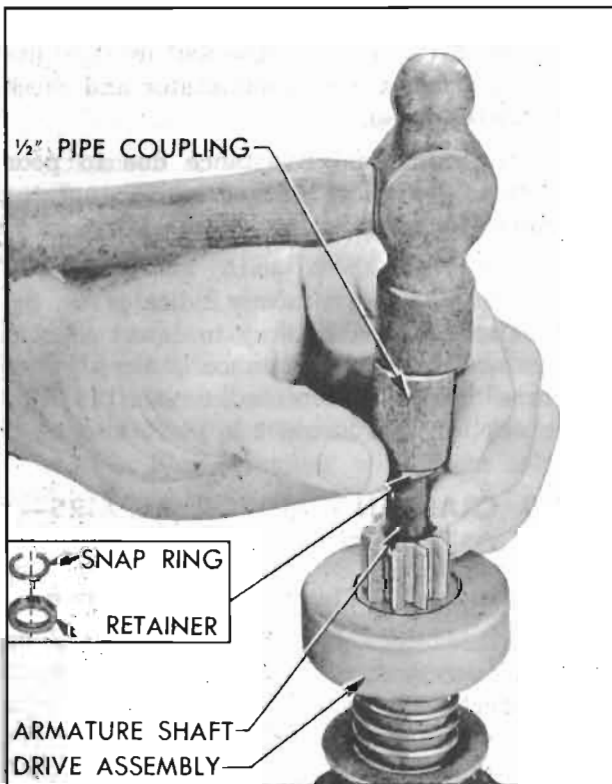

Figure 10-34—Removing Pinion Stop Retainer and Snap Ring
5. To remove drive assembly from armature, place a metal cylinder of proper size ( $1\frac{1}{2}$ " pipe coupling will do) over end of shaft to bear against the pinion stop retainer. Tap retainer toward armature to uncover snap ring. See figure 10-34. Remove snap ring from groove in shaft, then slide retainer and pinion drive assembly from shaft. Remove assist spring.